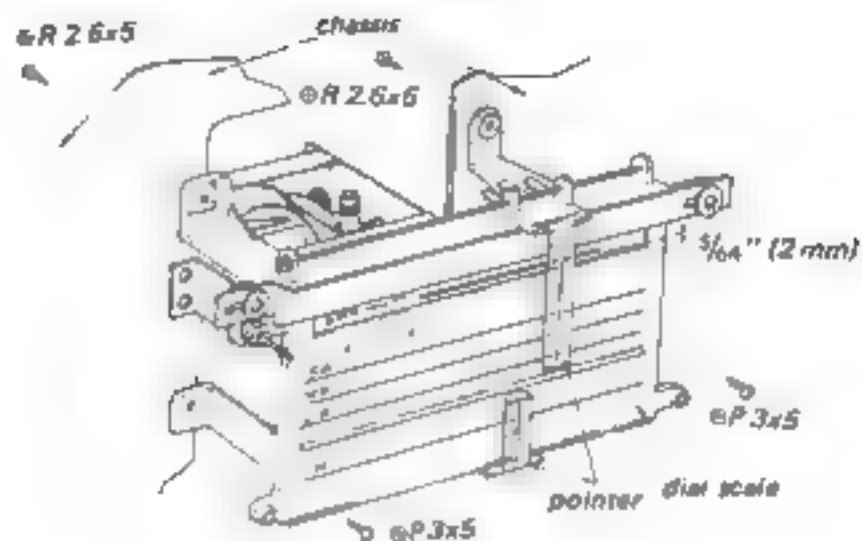

Fig. 2-15
- 2 Remove the four screws shown in Fig 2-15
- 4 Turn the dial drum so that the drum indicates SW10 and the distance between the dial scale and the line on the drum becomes $3/64$ inches (2mm) as shown in Fig. 2-15